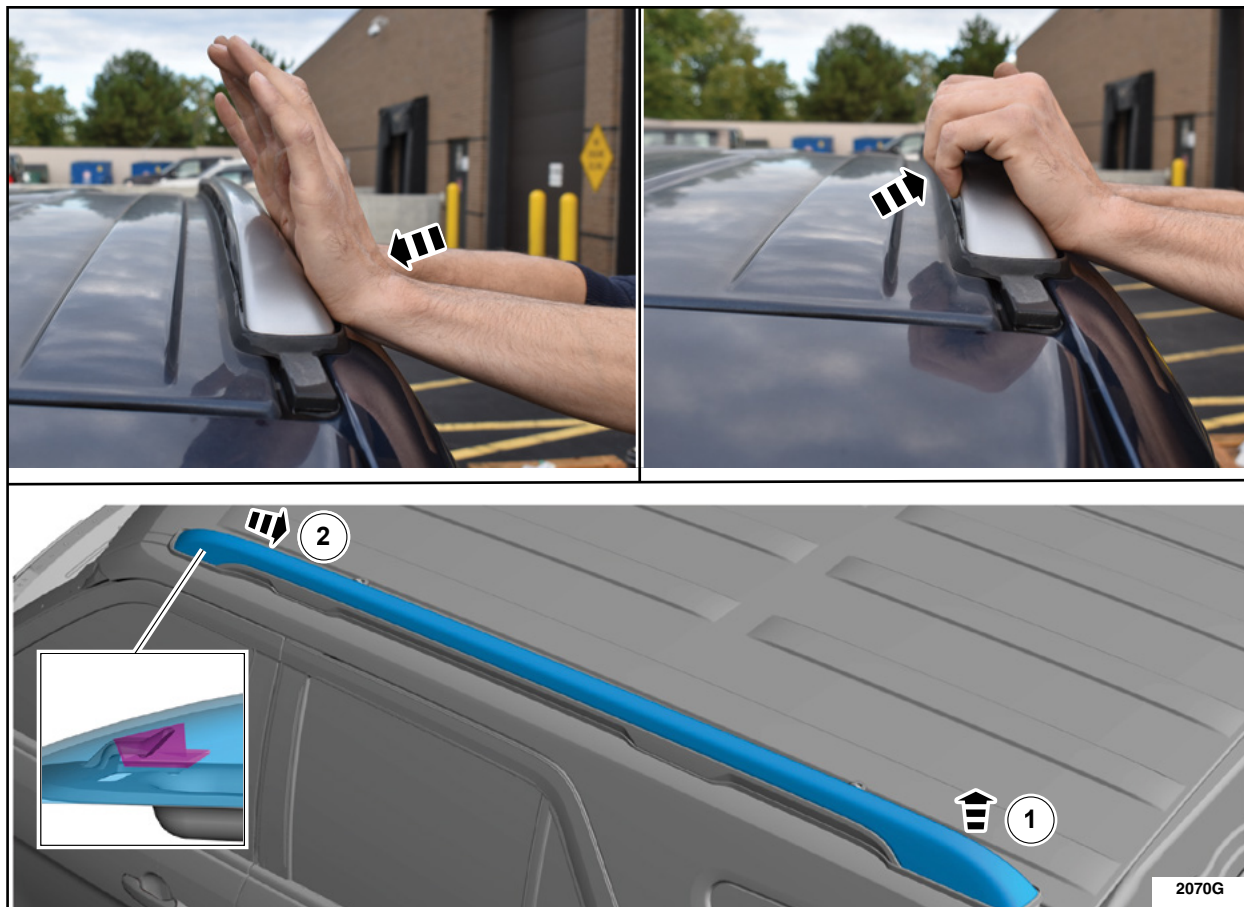

FIGURE 2
2. Using your hands and starting at the rear of the vehicle, disengage the retainer clips by pushing with the palms of your hands and pulling with your finger tips. Work your way down towards the front of the vehicle, slide the roof rail cover rearward and remove the roof rail cover. See Figure 2.